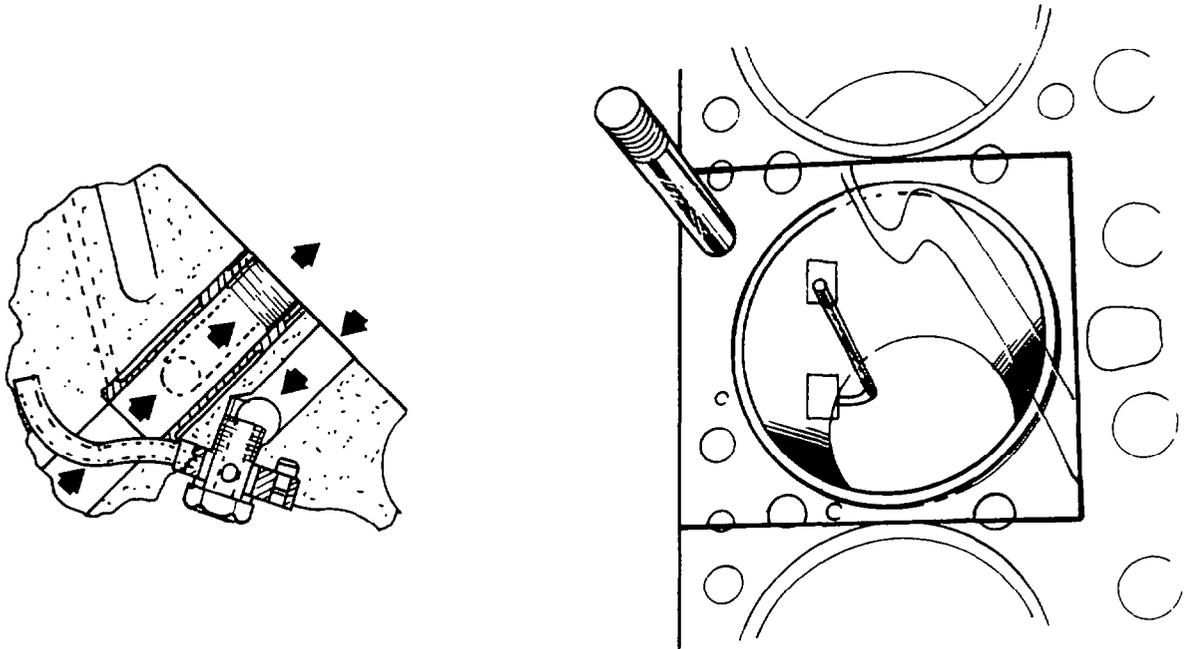

Fig. 58 — Aligning Oil Spray Nozzles
- b. Using tool J-22963 check that the nozzles are correctly aimed (see fig. 58).